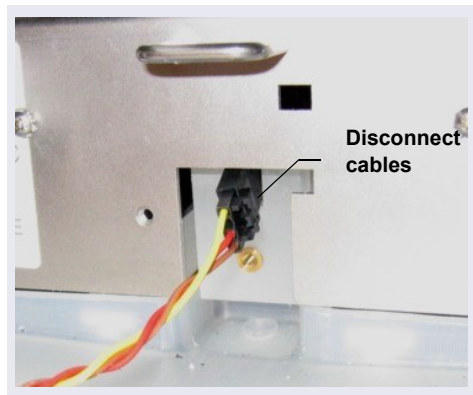

Figure 10-36. Leak Sensor Cable
6. The cable attached to the leak sensor connects to a cable inside the DC. Continue pulling the cable until the connectors for the two cables are outside the panel (see Figure 10-36).